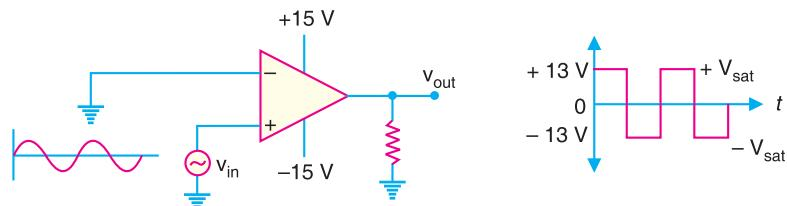

Fig. 25.94
**1. As a square wave generator.** A comparator can be used to produce a square wave output from a sine wave input. Fig. 25.94 shows the circuit of a comparator to produce square wave output. Note that inverting terminal (–) is grounded and signal ( $v_{in}$ ) is applied to the noninverting terminal (+). Since the gain of a comparator is equal to  $A_{OL}$ , virtually any difference voltage at the inputs will cause the output to go to one of the voltage extremes ( $+V_{sat}$  or  $-V_{sat}$ ) and stay there until the voltage difference is removed. The polarity of the input difference voltage will determine to which extreme ( $+V_{sat}$  or  $-V_{sat}$ ) the output of the comparator goes.